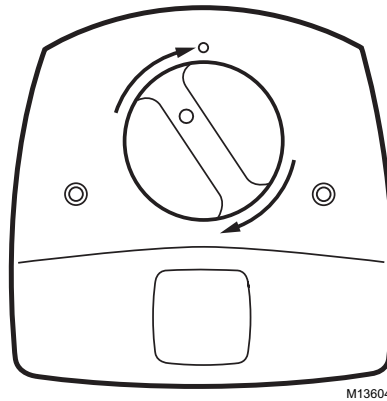

Fig. 9. Snap lamp into place.
13. Rotate the lamp handle clockwise until it snaps into place with the lamp indicator light aligned with the raised button on the unit cover. See Fig. 9.